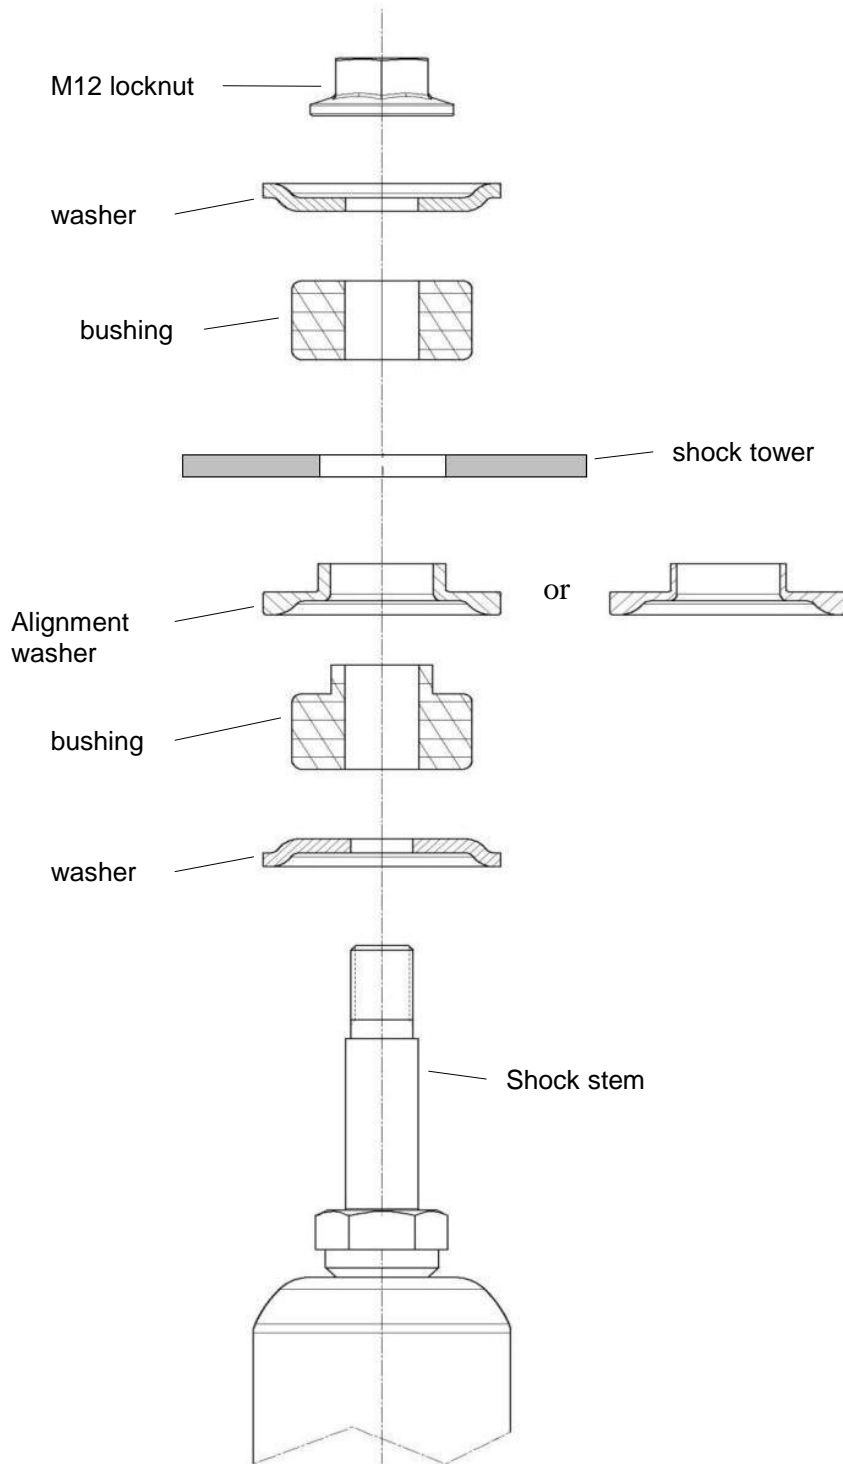

Figure 2: Stem mounting hardware orientation
[Refer to Figure 2 on page 3 to ensure stem mounting hardware components are installed in the correct order and orientation]:
- B. Using the supplied stem mounting hardware, install the lower washer, bushing, and alignment washer onto the shock stem. See Figure 2 for correct hardware orientation.
- D. Install the upper bushing, washer, and locknut. If a chassis hoist has been used, be sure to lower the vehicle such that its full weight is on the suspension prior to fully tightening the fasteners. Torque supplied locknut to 27 N·m (20 lb·ft). See Figure 2 for correct hardware orientation.